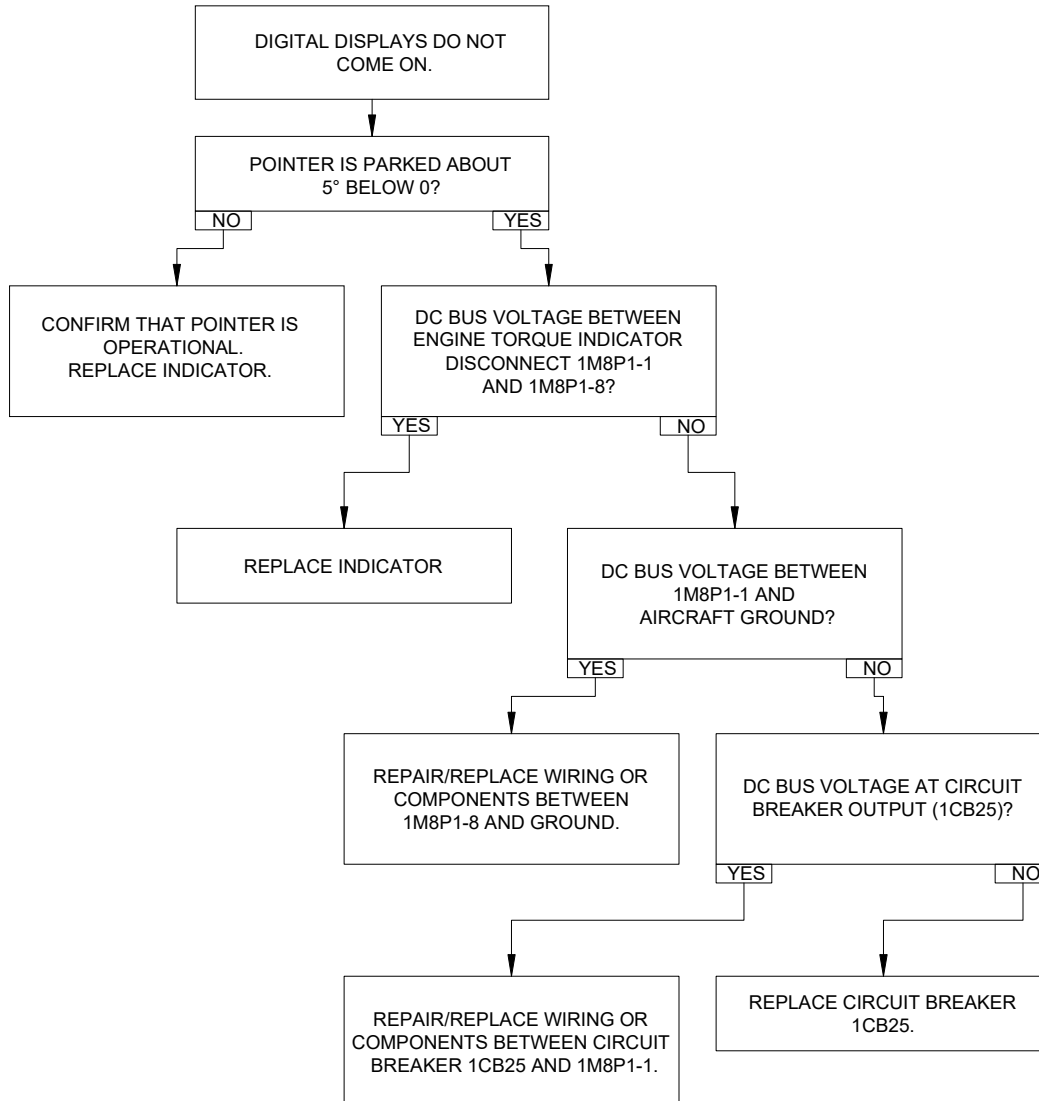

Figure 95-5: Engine Torque Indication System - Trouble No. 1
- If the digital displays do not come on, refer to Trouble No. 1 (Figure 95-5).